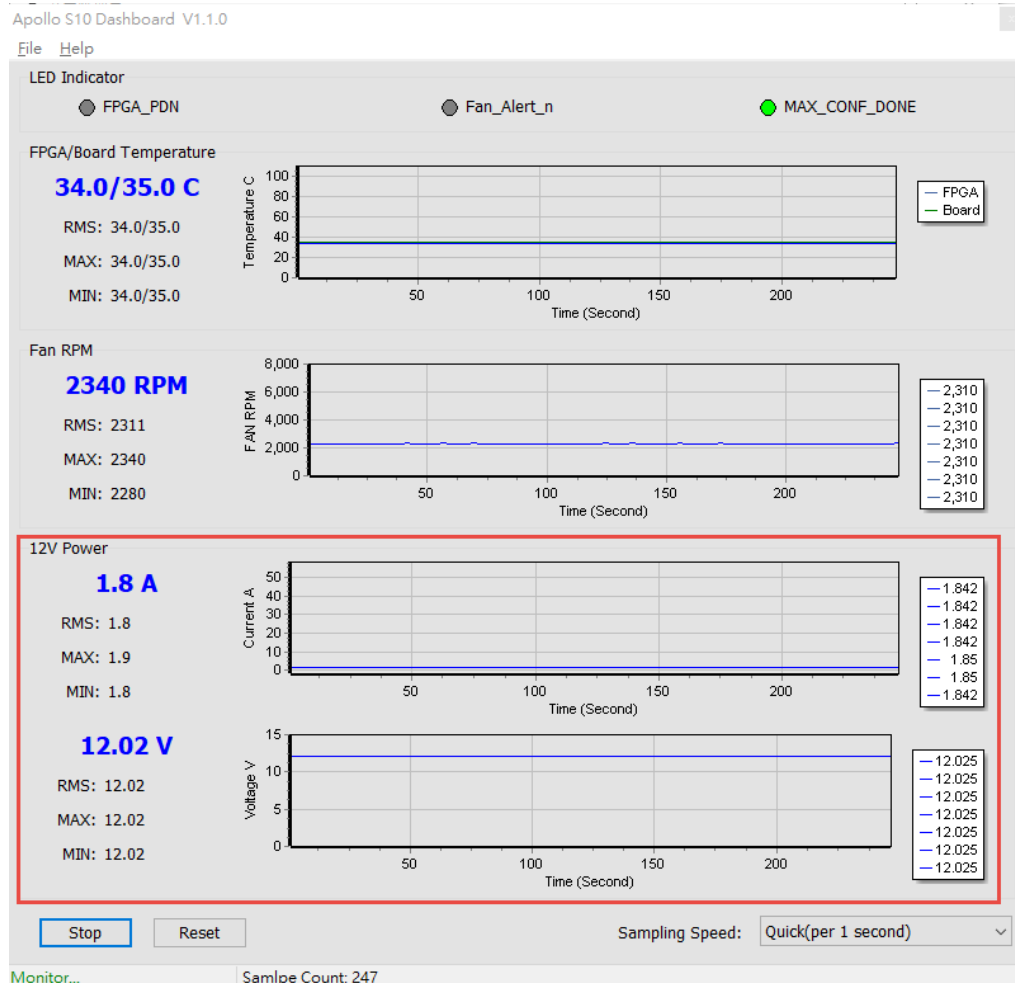

Figure 4-11 Power Monitor Section
- **12V/Core Power monitor:** It displays the real-time 12V/Core Power (0.9V) voltage and consumption current on the Apollo S10 board, as shown in **Figure 4-11**.